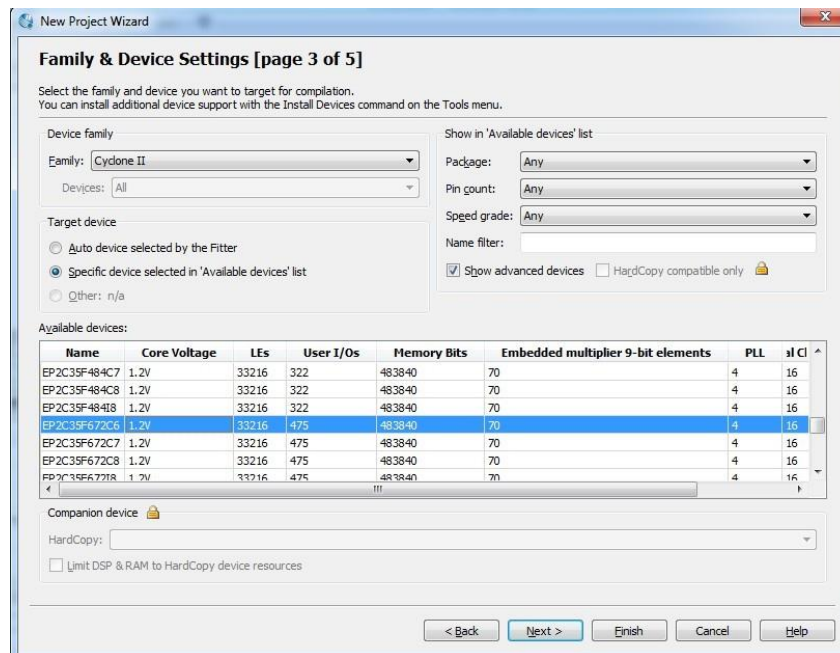

Figure 3
3. After adding all the files you want to include or if you don't have any, click next to reach the window in Figure 3. Here you need to specify the device in which the design circuit will be implemented. Under **"Family"**, select **"Cyclone II"**, under **"Available Device"**, select **"EP2C35F672C6"**, which is the FPGA used on Altera DE2 board in the lab.